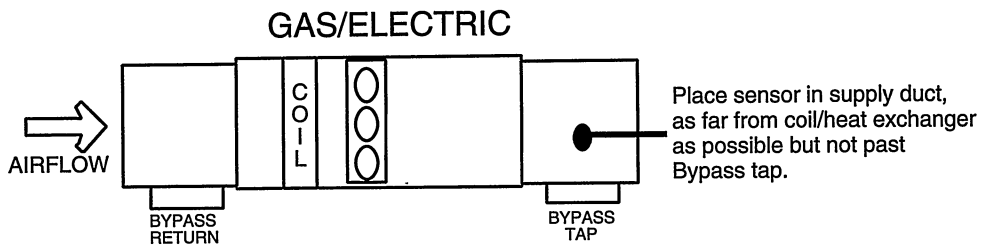

Figure 1. Sensor Location
- A. Select location to place sensor. For gas/electric HVAC systems, sensor must be in leaving air duct, preferably as far from the coil/heat exchanger as possible but not past the bypass tap. For heat pumps, sensor must be placed between coil and auxiliary heat. If heat pump does not have auxiliary heat, place sensor as specified for gas/electric system. See Figure 1.